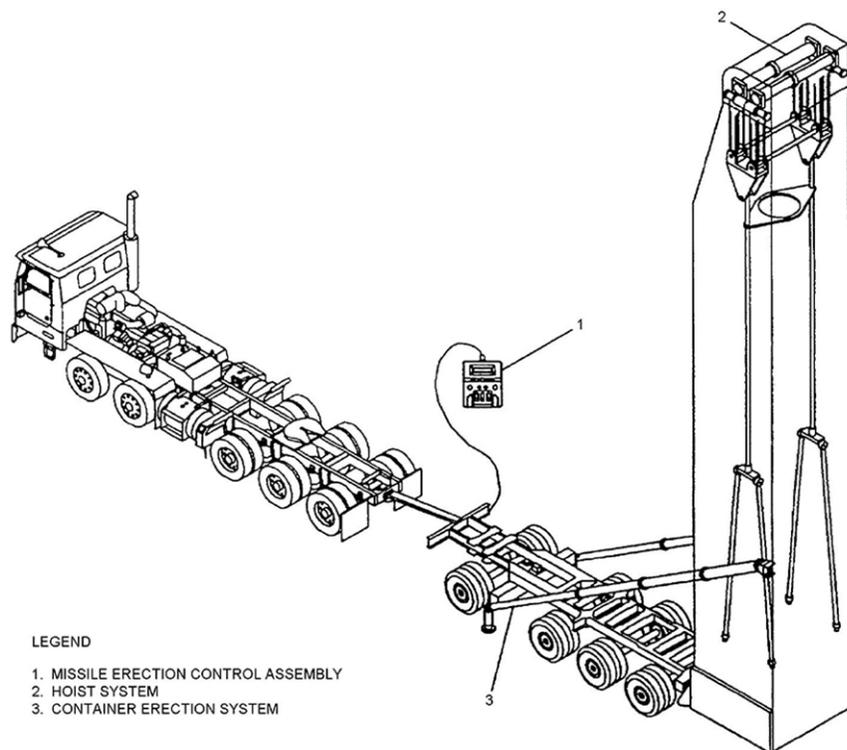

Figure 1-16. TE missile emplacement system.
The TE missile emplacement system (fig 1-16) is used to hydraulically raise and lower the container; raise, lower, and traverse the missile downstage; and sequence and monitor those operations. The missile emplacement system is electrically controlled and hydraulically operated. It consists of the following systems:
The two hydraulic actuators (fig. 1-16, item 3) attached to each side of the container and rear carriage raise and lower the TE container. The erection control manifold routes hydraulic fluid through a series of valves and orifices to establish the pressure necessary to operate the actuators. An emergency flow limiter manifold mounted on the actuator support structure of the rear carriage prevents the container from freefalling from the vertical position if a hydraulic line fails.